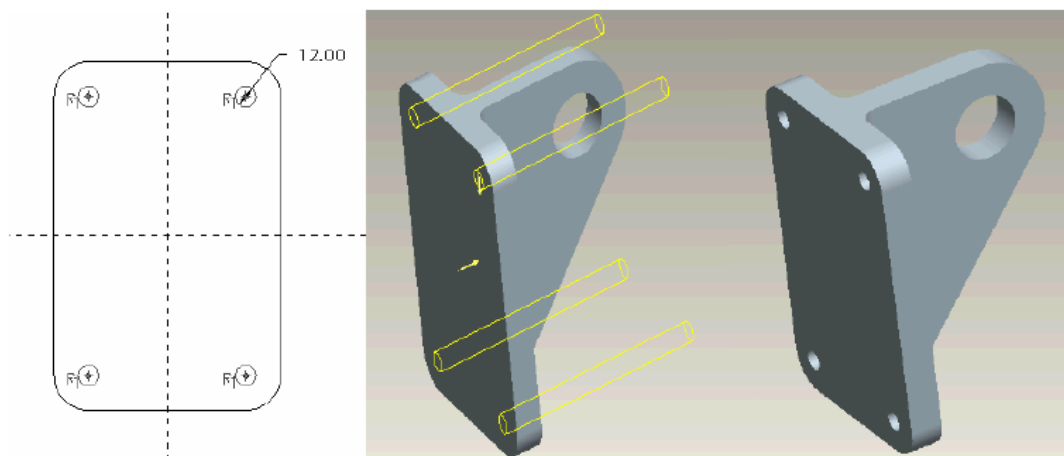

Figure 3 – Sketch for Four Holes
- Create four holes to lock on to the same size as shown in Figure 3. Note all of the holes are concentric with each corner of the bracket.